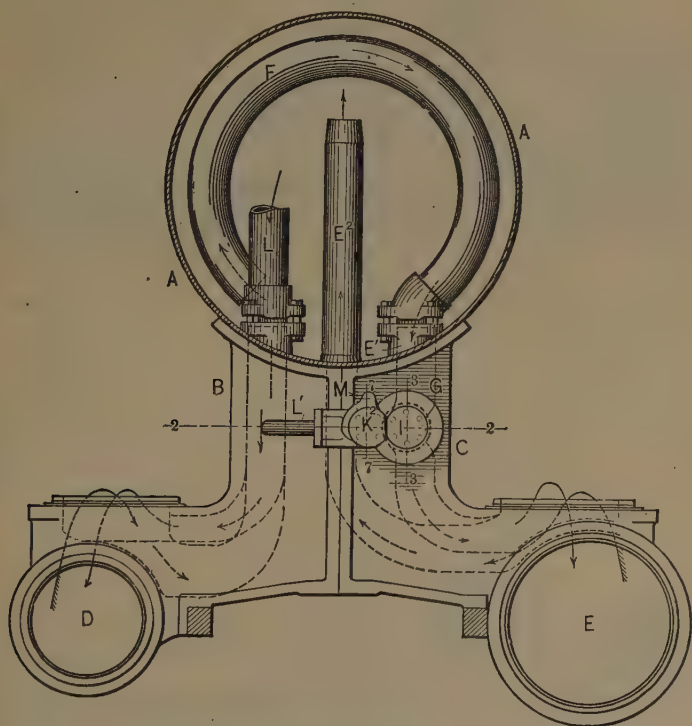
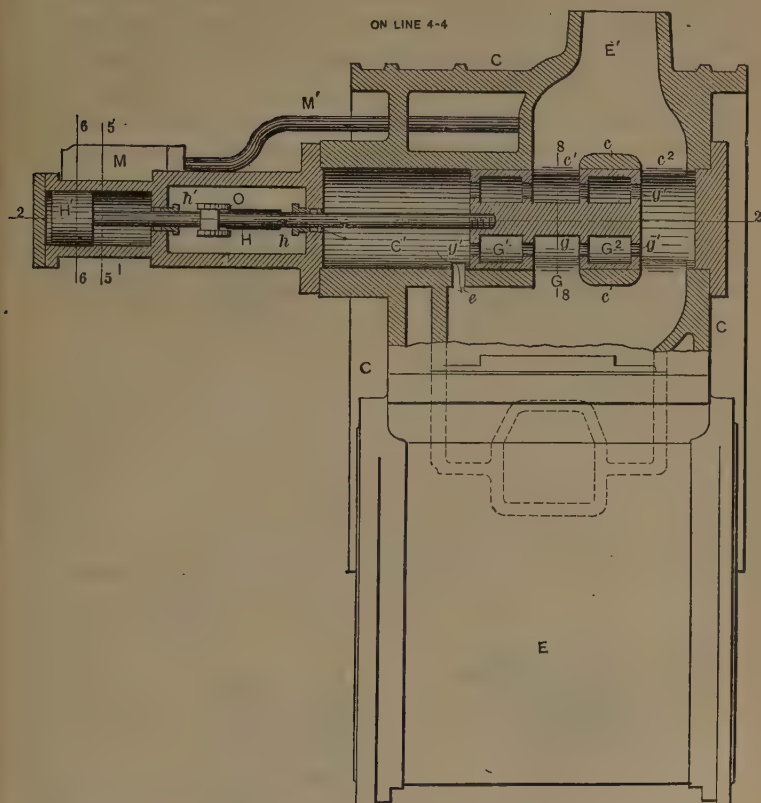

Fig. 332. Front Elevation (partly in Vertical Cross Section) of the Schenectady Compound.
Fig. 335. Section of Schenectady Compound Intercepting Valve.
A. Fig. 332 shows a front elevation, partly in vertical cross section, showing the cylinders, their saddles, the smoke-box, the reservoir, intercepting valve and steam passages; Fig. 333
is a horizontal cross section through the intercepting valve and other valves relating thereto on the line 2, 2 of Figs. 332 and 334, showing the relation of parts when the intercepting valve is open. Fig. 335 shows a similar view of some of the same parts in the position which they take when the intercept-
ing valve is closed. Fig. 334 shows a vertical lengthwise section through the intercepting valve on the line 4, 4 of Fig. 335, with the valve open; this figure being also a section on the line 3, 3 of Fig. 332. Fig. 336 is a vertical cross section
sion on the line 7, 7 of Figs. 332, 336 and 337; Fig. 339, a vertical cross section through the intercepting valve on the line 8, 8, of Fig. 335. The feathered arrows show the course of the steam; the short unfeathered darts in Fig. 333 show
the movements of the regulating valve and the actuating piston of the intercepting valve. Fig. 332 shows a smoke-box *A* on saddles *B*, *C* connected respectively with a high-pressure
cylinder *D* and a low-pressure cylinder *E*, on opposite sides of the engine and having suitable pistons and induction and eduction ports (not shown). The exhaust-port of the high-pressure cylinder is connected by a pipe (shown in dotted lines in Fig. 332), with a reservoir *F*, the other end of which connects with the inlet pipe *E* of the low-pressure cylinder, in which the intercepting valve *G* is placed, and across which it reciprocates to open or close this passage. The intercepting valve and the apparatus which belong thereto are shown as mounted on the saddle *C* of the low-pressure cylin-
shown in Fig. 333, to that shown in Fig. 335. This causes the slide valve K^1 to uncover the ports i of the cylinder I , which in turn forces the piston H^1 to the right, closing the ports $G^1 G^2$ of the intercepting valve, as shown in Fig. 333. The relation of the ports is such that as the intercepting valve closes, the wiper o^2 strikes the stem N^2 of the poppet valve N^1 and opens it, thus letting live steam pass from the pipe L^1 through the passages $n^2 n^3$ into the intercepting valve cylinder and through the port e therein to the low-pressure cylinder E below the intercepting valve, thus operating it with the full pressure of the live steam. The intercepting valve, as before remarked, is already closed, and the tendency of the live steam is to press it upward in its seat, so as to prevent any leakage into the receiver and consequent back pressure upon the high-pressure cylinder. The perforations g^1 in the intercepting valve prevent the steam from exerting any endwise pressure upon it in either direction, and it is consequently entirely dependent upon the action of the live steam upon its piston H^1 in the actuating cylinder I . The intercepting valve should have sufficient lap to move slightly beyond its closing point, in order that the opening of the supply-valve N^1 may not take place until the intercepting valve is fully closed, the tappet o^2 being correspondingly adjusted.
A. The live steam is cut off from the low-pressure cylinder. The pressure in the receiver and the induction pipe E^1 then soon becomes sufficient to force steam through the return pipe M^1 into the auxiliary chamber M and force the regulating piston valve m into its seat, thus closing the ports l and j and simultaneously opening the port j^1 . The steam then passes through this last-named port and the port j^2 to opposite sides of the larger piston K^1 , the result of which is to force the slide valve k^1 to the left in the position shown in Fig. 332,